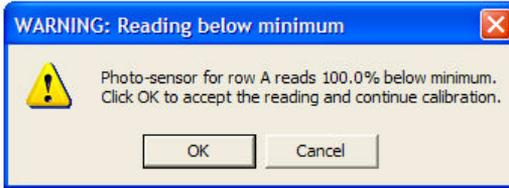

Figure 23
4. If you see a message similar to Figure 23, and your light plate is powered on, please contact Turner BioSystems for support: